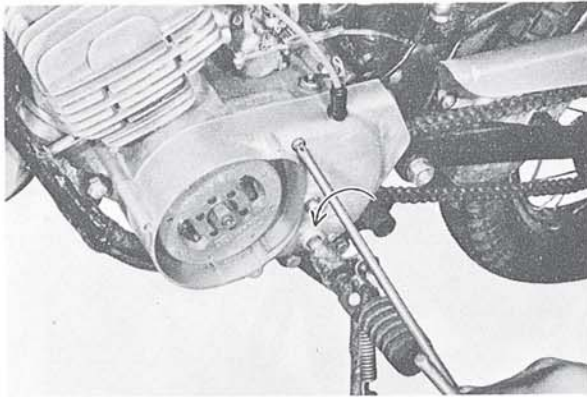

Fig. IV-1-7
5. On the CT1-C, equipped with a flywheel magneto, the wiring should be disconnected from the wire harness center at its connector. (Fig. IV-1-7)